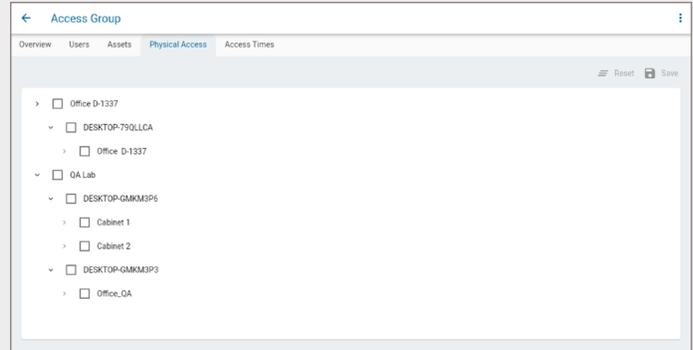

Fig. 108 – Access Group screen – Physical Access tab
1. Select the **Physical Access** tab, as shown in Fig. 108.